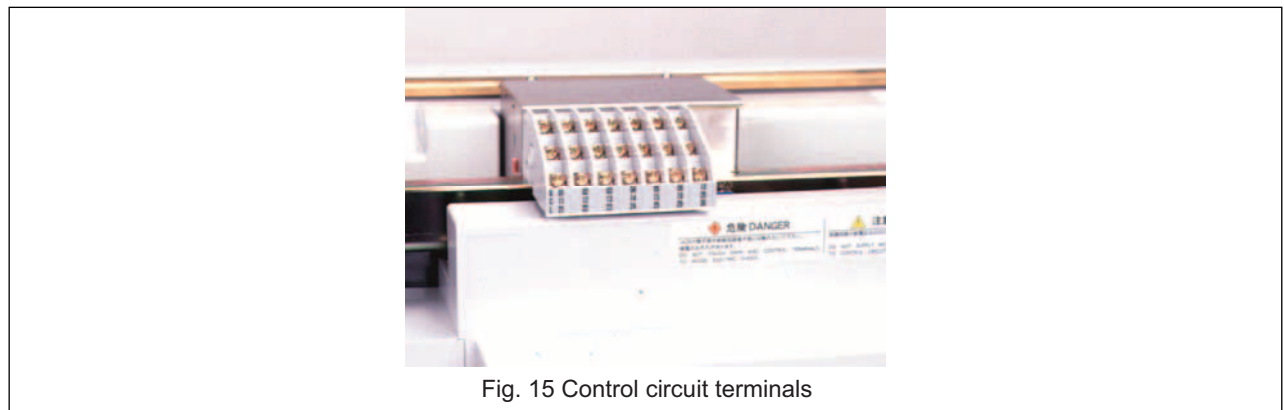

Fig. 15 Control circuit terminals
| ③⑧ | Control circuit terminals | Allow connections of external control wire to the control circuits. Wire connections are made through M4 screw terminals. Fig. 15 shows the control circuit terminals. |